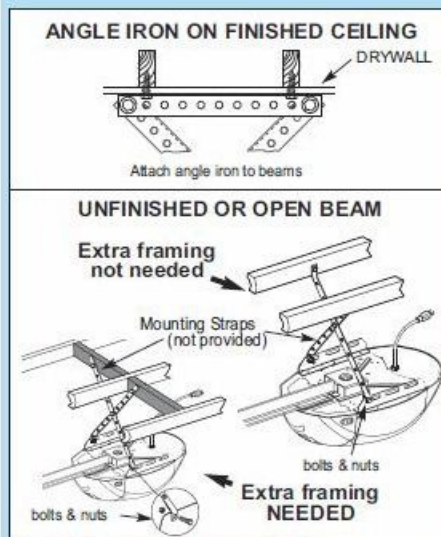

FIG. 2-6 Mounting the power head.
- On **finished** ceilings, locate ceiling joists or trusses using a stud finder or similar device. Attach angle iron (not provided) to joists or trusses through finish material using (provided) lag screws (Fig. 2-6).
- On **unfinished** ceilings or open ceilings, straps may attach directly to joists or trusses. Depending on the garage construction, extra framing material (not provided) which may be required should be installed using appropriate construction techniques (Fig. 2-6).
- Attach mounting straps (not provided) to ceiling using lag bolts (Fig. 2-6).
- Set height of power head to following (Fig. 2-6).